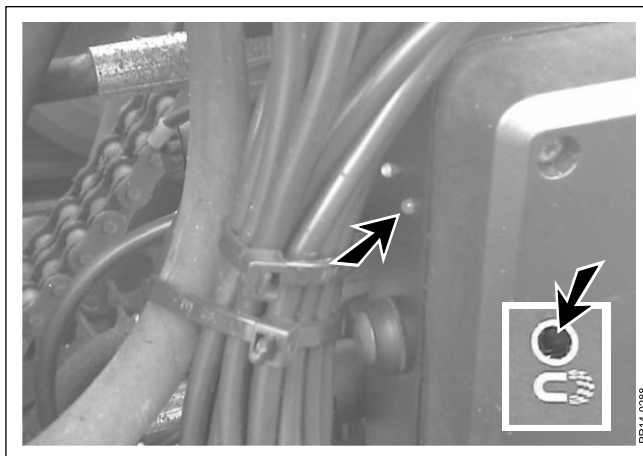

Fig. 5-7
**Fig. 5-7** The metal detector is turned on and off by pushing the button on the MD control unit. It is turned **off** by holding the button down for about five seconds. This extinguishes the yellow control light on the MD control unit and the light on the control box. One single push on the button turns the metal detector on again. The metal detector must be ready in order that it can be turned off. The red light on the control box must either be illuminated or be flashing.